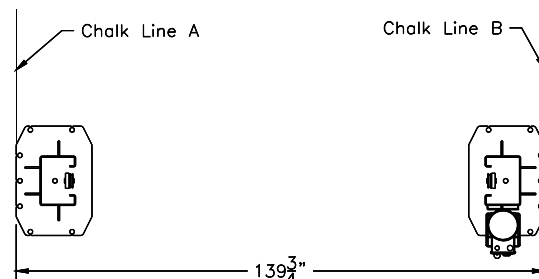

Fig 1 – Column Layout
- Using the Overall Width (C) Dimension from **Fig 1**, chalk two parallel lines on the floor within 1/8" tolerance. Erect both column assemblies. Align the base plate edges to the chalk lines.
- 6) Recheck "Inside of Columns" dimension, **Fig 1**. Drill the anchor holes using the base plate as a template. Drill through the floor if possible or to a depth of 5 inches minimum.